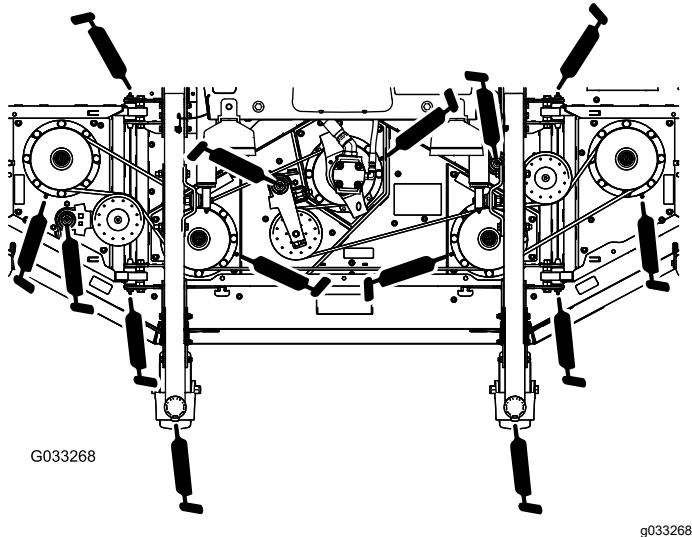

Figure 52
- 2 caster-fork-shaft bushings (Figure 52)
- 5 spindle-shaft bearings (located on the spindle housing) as shown in Figure 52
- 3 idler-arm-pivot bushings (located on the idler-pivot shaft) as shown in Figure 52
- 4 winglet-deck bushings (located on the winglet-pivot pins) as shown in Figure 52